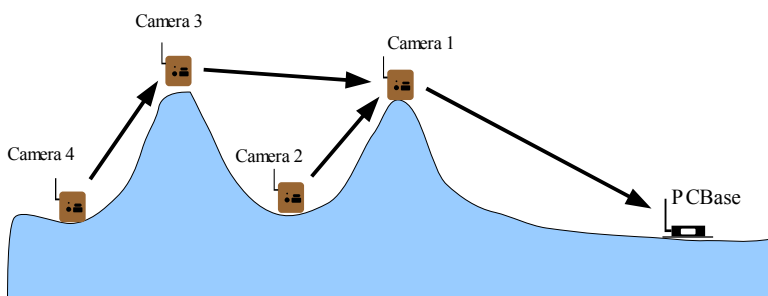

Figure 1. Network of 4 cameras with two repeating cameras
Figure 1 illustrates an example where the repeater feature is used. In this example:
*Thus, before unregistering Camera 3 on Figure 1, Camera 4 should be unregistered or routed to either Camera 2, Camera 1, or directly to the PCBase. Only after routing is changed on Camera 4 and the change is reflected in the Routing Structure window, Camera 3 can be unregistered.*